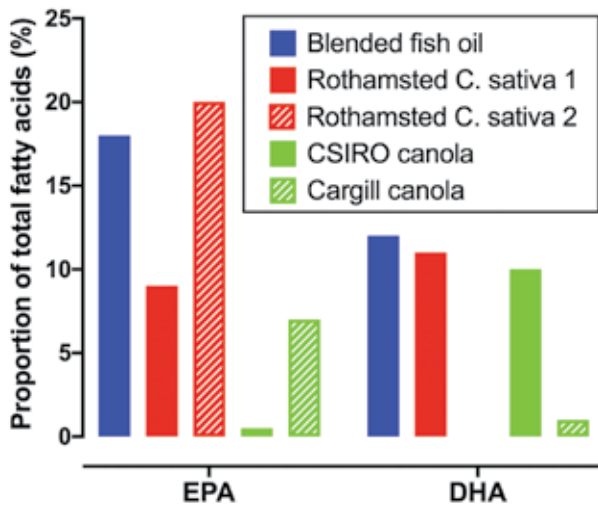

FIG. 1. The proportions of EPA and DHA in the seed oils of transgenic plants. Data from Tocher, *et al.*, 2019.
Growing algae in large open-air ponds that make fuel production affordable introduces several complications (Fig.1, page 9). It is costly to stir the ponds mechanically so that all the organisms get exposed to the sun for photosynthesis. Scientists also worry that genetically altered strains may
**FIG. 1.** Different cultivation systems for large-scale production of algal biomass. (A) Open pond systems use natural solar light as a source of energy. Closed systems can use either (B) natural solar light or (C) artificial light as an energy source. Source: Pathak, J., *Front. Environ. Sci.* 6:7,2018.
Seed oils from transgenic plants that synthesize EPA and DHA are a potential solution to overcoming socioeconomic barriers to meeting recommended intakes which are sustainable and scalable to meet global demands. Four strains of plants have been developed, two based on canola and two derived from *Camelina sativa* (Fig. 1) (Tocher, *et al.*, 2019). The two transgenic canola oils developed by BASF/Cargill and the Commonwealth Scientific and Industrial Research Organisation
(CSIRO)/Nuseed have EPA : DHA ratios of 7 : 1 and 0.5 : 10, respectively. The seed oil from one transgenic strain of *C. sativa* developed by Rothamsted Research has an EPA : DHA ratio of 20 : 0 (Fig. 1). Since humans need to consume both EPA and DHA, seed oils that contain predominately either EPA or DHA with small amounts of the other fatty acid have limited potential for meeting human dietary requirements, either via direct consumption or indirectly via an animal feed ingredient. However, the other transgenic strain of *C. sativa* developed by Rothamsted Research produces an oil with similar proportions of EPA and DHA (9 : 11) which approximates the relative amounts of EPA and DHA in commercial fish oils such as those harvested from the Northern Hemisphere's oceans (Fig. 1) and so is a potential alternative to oily fish as a source of both EPA and DHA in the human diet.